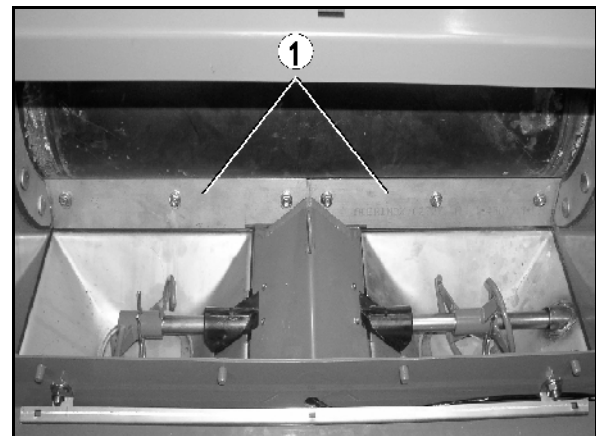
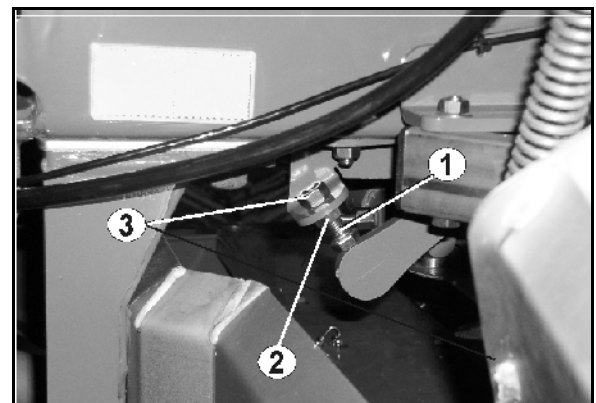

Fig. 85
Fig. 86
The pressure of the scraper (Fig. 85/1) on the floor belt is set **on both sides** of the machine by means of the adjusting screw (Fig. 86/1):
1. Tighten the nut (Fig. 86/2) on the adjusting screw until the segment plates are in even contact with the floor belt.
2. Tighten the lock nut (Fig. 86/3) with the tool.